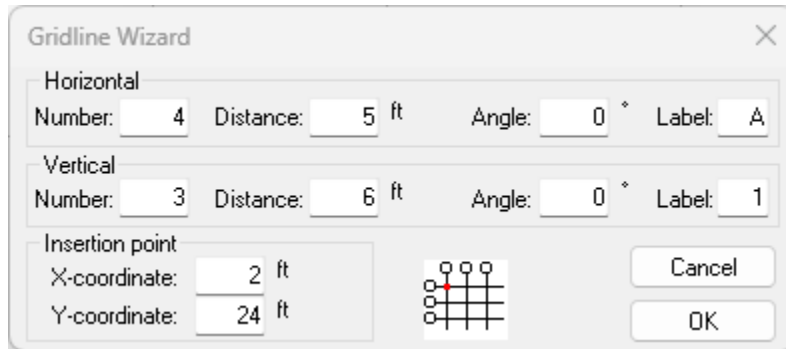

FIGURE 3-6
- Go to *Model* → *Gridline* and click on the **Gridline Wizard**  icon. This will open the *Gridline Wizard* dialog window as shown in **FIGURE 3-6**.